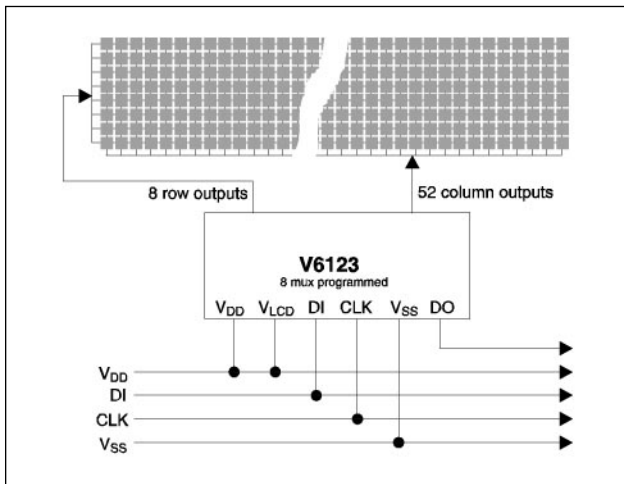

Fig. 1
- Very simple 1-bit interface (see Fig.1)